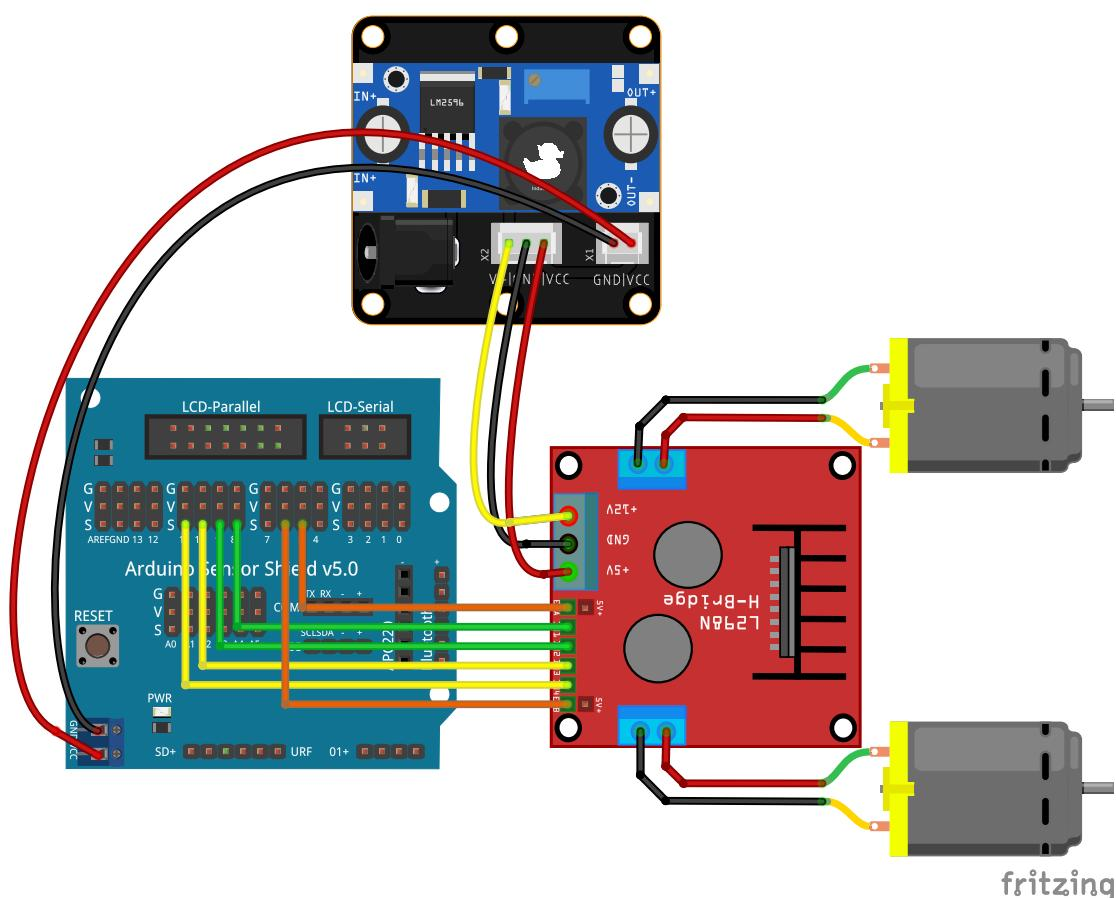

Figure 5: How to connect the motor driver to the Arduino
- a) Connect **IN1** on the motor driver to pin **8** of the Arduino (green wire, Figure 5).
- b) Connect **IN2** on the motor driver to pin **9** of the Arduino (green wire, Figure 5).
- c) Connect **IN3** on the motor driver to pin **10** of the Arduino (yellow wire, Figure 5).
- d) Connect **IN4** on the motor driver to pin **11** of the Arduino (yellow wire, Figure 5).
You should now have a circuit that looks like Figure 5.